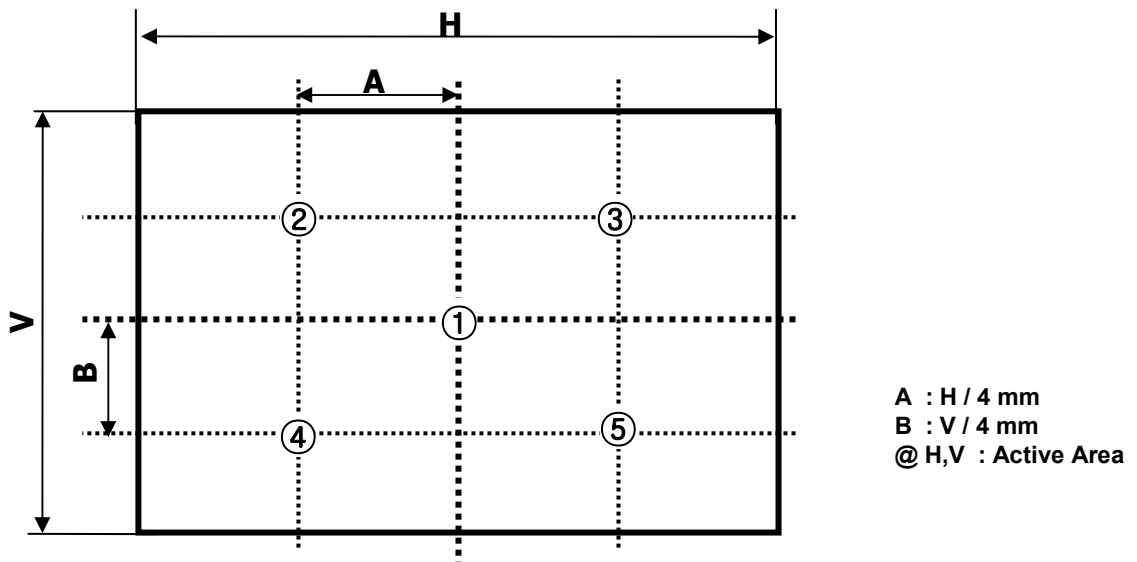

FIG. 2 5 Points for Luminance Measure
2. Surface luminance are determined after the unit has been 'ON' and 2Hour after lighting the backlight in a dark environment at 25±2°C. Surface luminance is the luminance value at center 1-point across the LCD surface 50cm from the surface with all pixels displaying white. For more information see the FIG. 2.
For more information, see the FIG. 2.